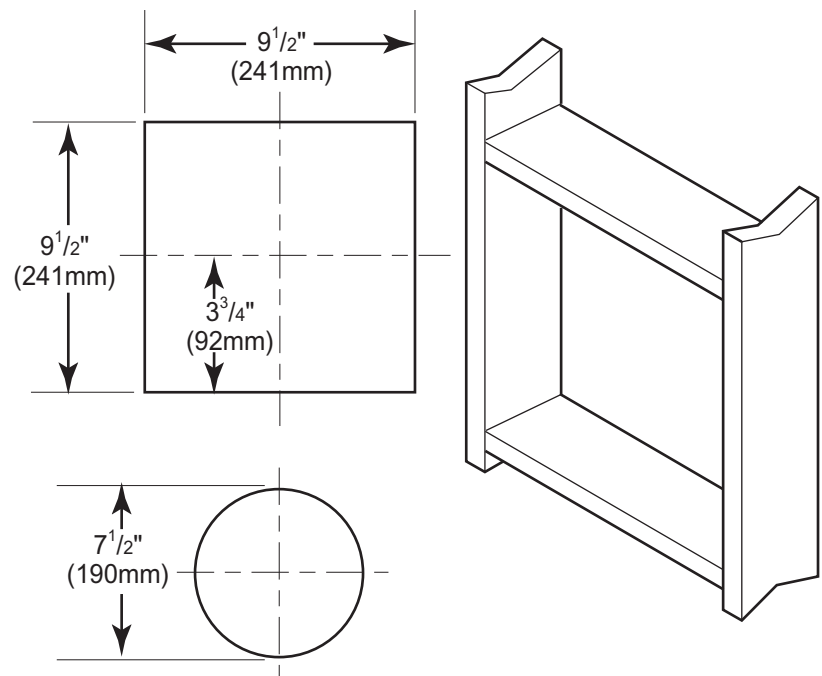

Figure 27 - Exterior Wall Framing Dimensions for 4"x6⁵/₈"
2. The center of the hole should line up with the center line of the horizontal rigid vent pipe end. Allow ¼" minimum rise per foot. See Figure 27.